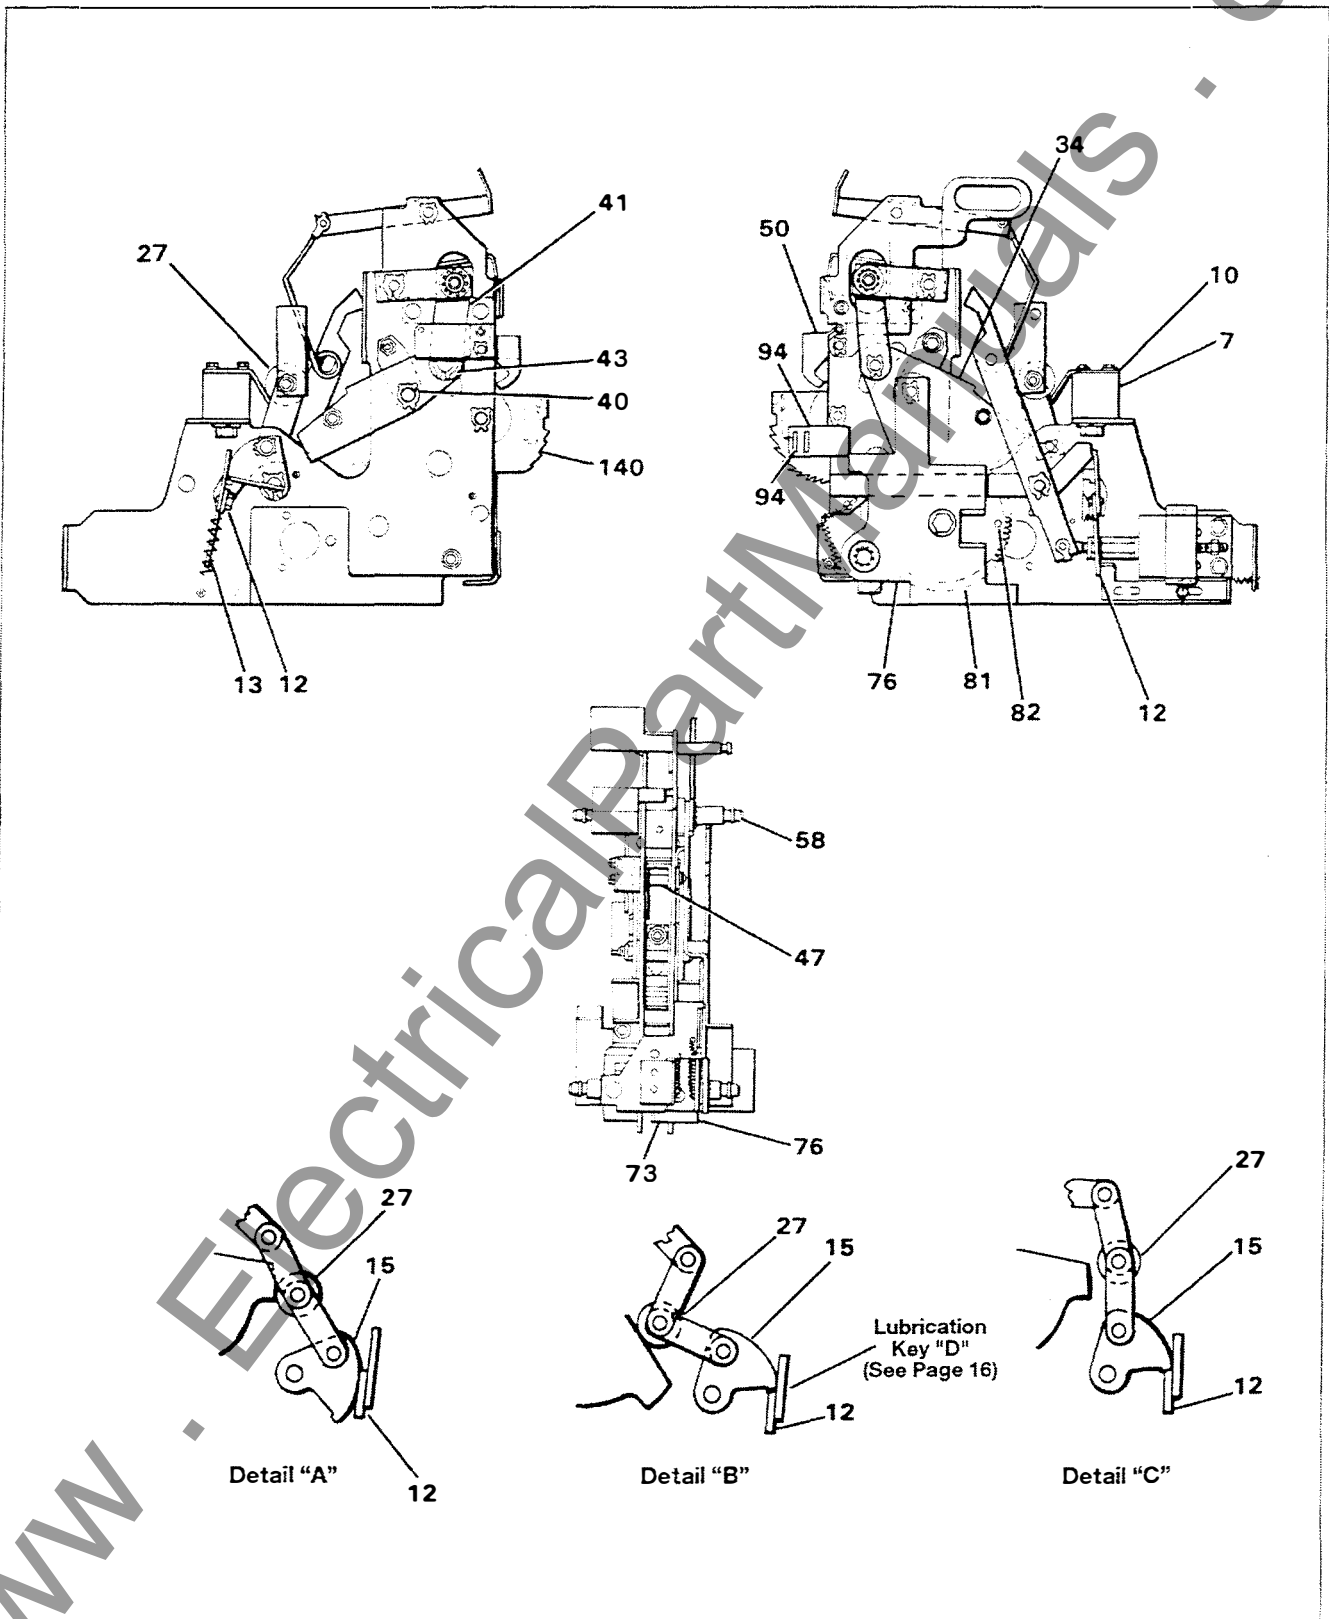

Figure 2. Circuit Breaker Operator
The mechanism of the electrically operated circuit breaker is the same as the manually charged circuit breaker, except that the manual charging handle is replaced by a motor and gear system. Refer to **Figure 2**, and **Table 2**. Power available to the control circuit will start the automatic charging cycle. The motor gear box pinion rotates gear (81) counterclockwise. Cam follower (82) engages an arm of wind and close cam (34), which rotates the cams in the same manner as for the manually charged circuit breaker. When the wind and close cam (34) reaches its charged position, the back of the cam engages switch lever (73), rotating the lever away from the switch operator. Gear switch lever (76) will still be holding the switch in the operate position and the motor will continue to run until the roll pins on the side of gear (81) lifts lever (76)
The breaker has a center-mounted frame so many of the latches and links are arranged in pairs. For descriptive purposes, they will be referred to as single items. Refer to **Figure 2** and **Table 1**. Detail (A) shows the position of the trip latch and toggle linkage when the circuit breaker is open and the closing springs are discharged.